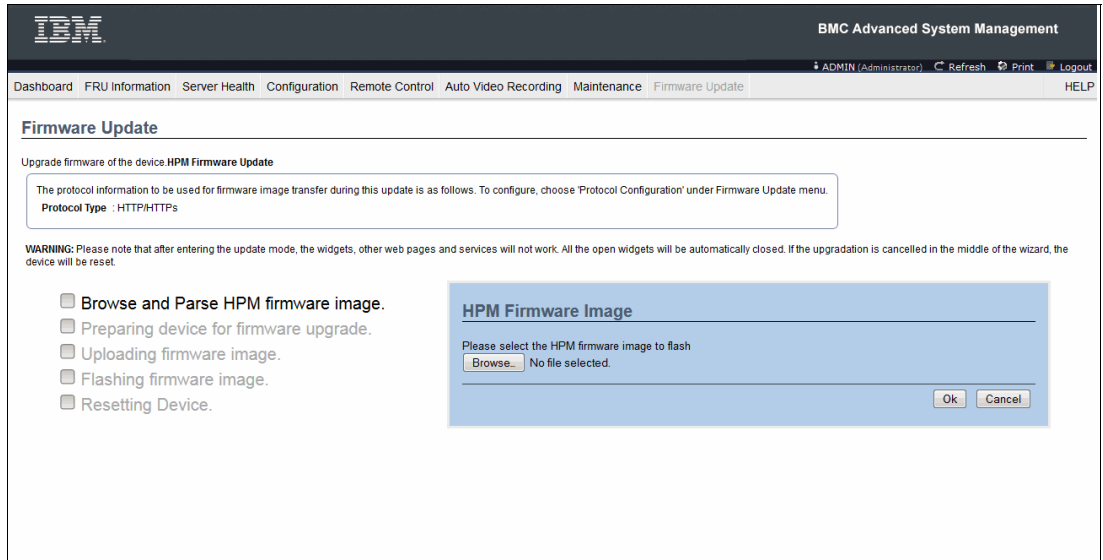

Figure 3-8 Select the firmware image
- Select the firmware update file from your local disk by selecting **Browse and Parse HPM firmware image**, clicking **Browse**, and selecting the file, as shown in Figure 3-8,